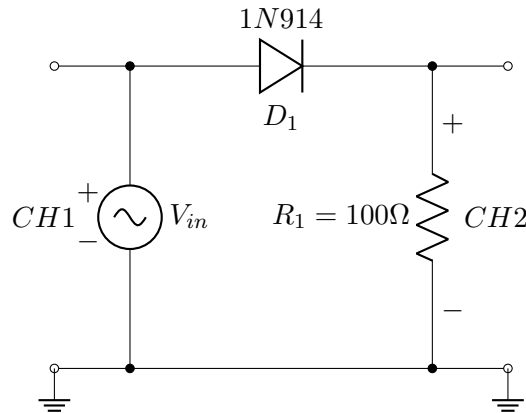

Figure 3: Half-wave rectifier mounted for measurements
1. Half-wave rectifier: Perform the same measurements done with your simulated circuit. Figure 3 shows the connections of the scope channels in the actual circuit.